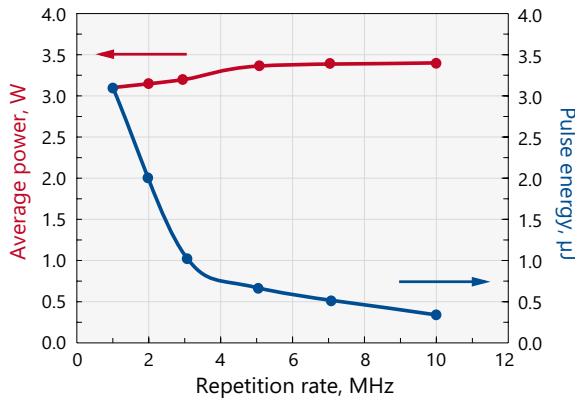
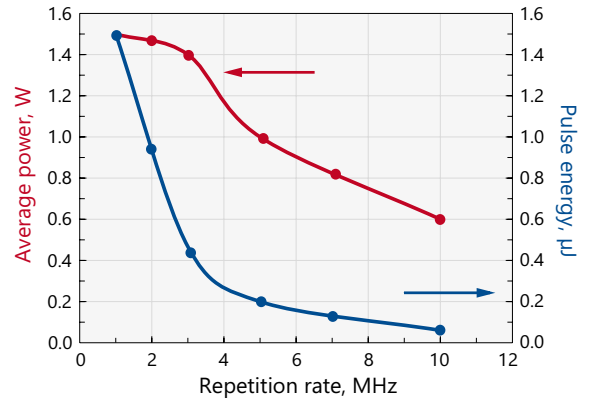

Fig 1. Typical dependence of output power and pulse energy of FemtoLux 3 laser at 1030 nm when changing internal repetition rate of the laser
Fig 2. Typical dependence of output power and pulse energy of FemtoLux 3 laser at 515 nm on pulse repetition rate
2) See typical power and energy curves for other pulse repetition rates at Fig 1., Fig 2. and Fig 4.